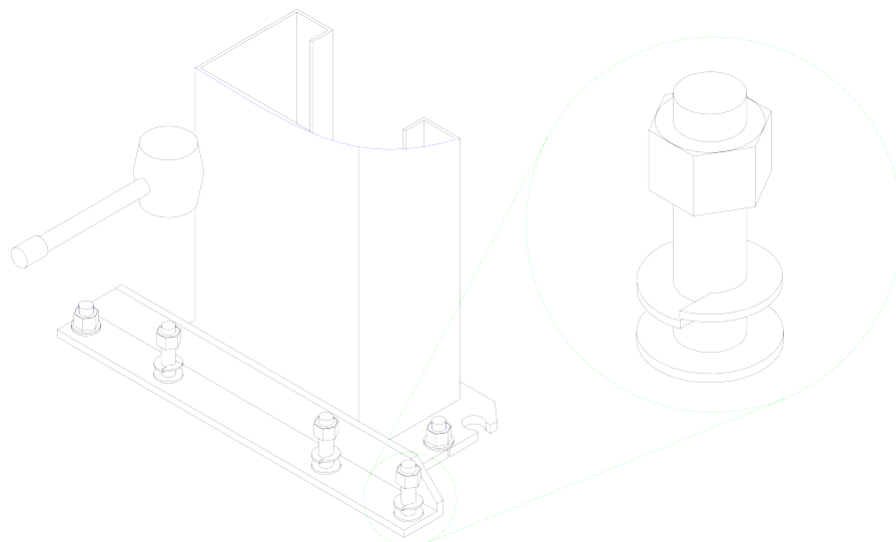

Figure 8
E. Assemble the washers and nuts onto the anchor bolts. Thread the nuts onto the anchor bolts where the tops of the nuts are just above the top of the bolts, figure 8. Using a hammer, carefully tap the anchor bolts into the concrete until the washer rests against the baseplate. **Do not damage the nuts or threads.**